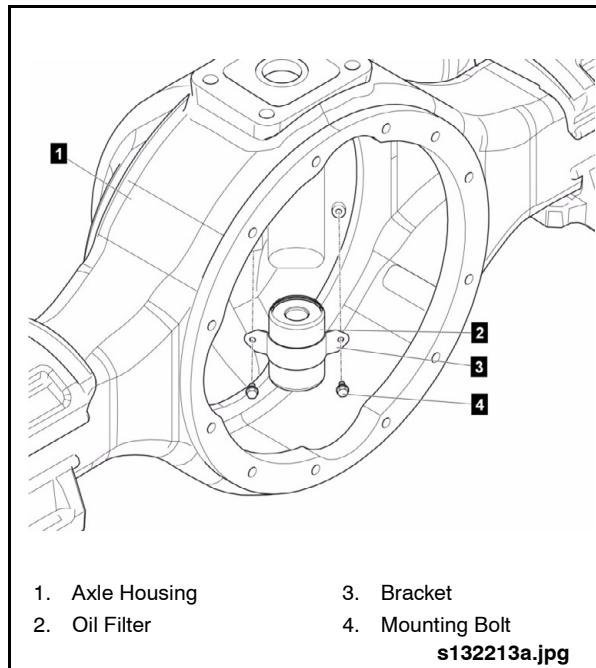

Fig. 2-44: Axle Housing Oil Filter
1. Prior to installing the differential carrier assembly into the axle housing, remove the oil filter, located in the upper area of the axle housing. See "Fig. 2-44: Axle Housing Oil Filter" on page 40.